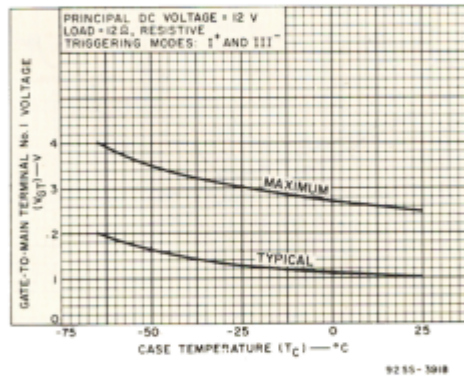

Fig. 10 - DC gate-trigger voltage vs. case temperature.
| DC Gate-Trigger Voltage: ♣♣For v D = 12 V (DC), R L = 30 Ω,T C = 25° C .....T C = -65° C .....For other case temperatures .....For v D = V DROM , R L = 125 Ω, T C = 100° C            | V GT   | ——0.2                            | 12See Fig. 10  | 2.54*—               | V     |